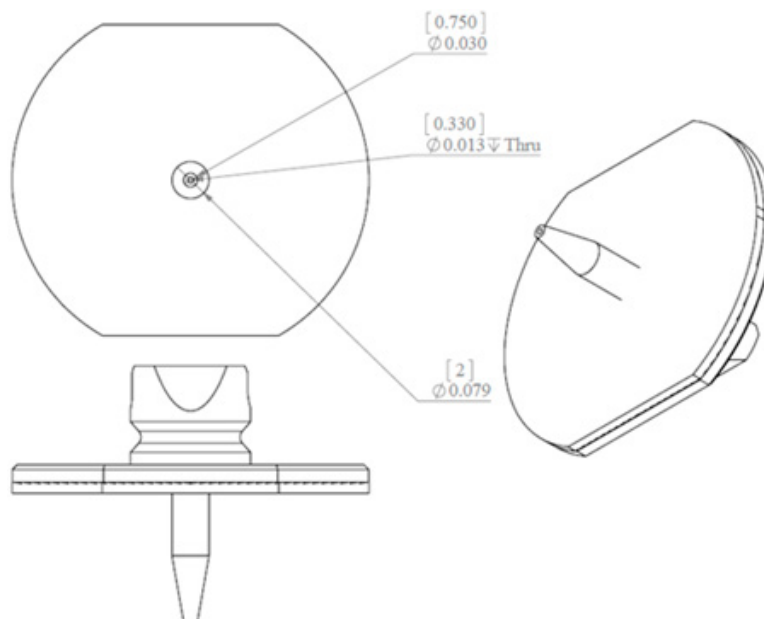
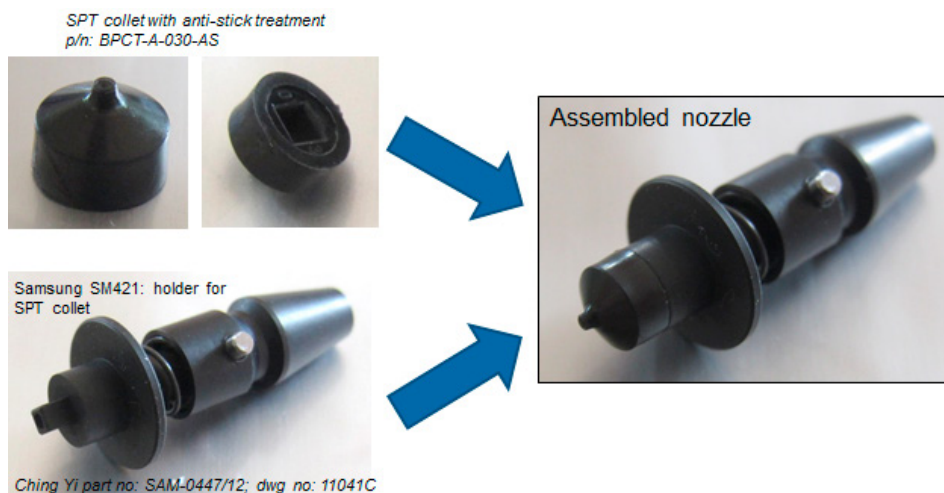
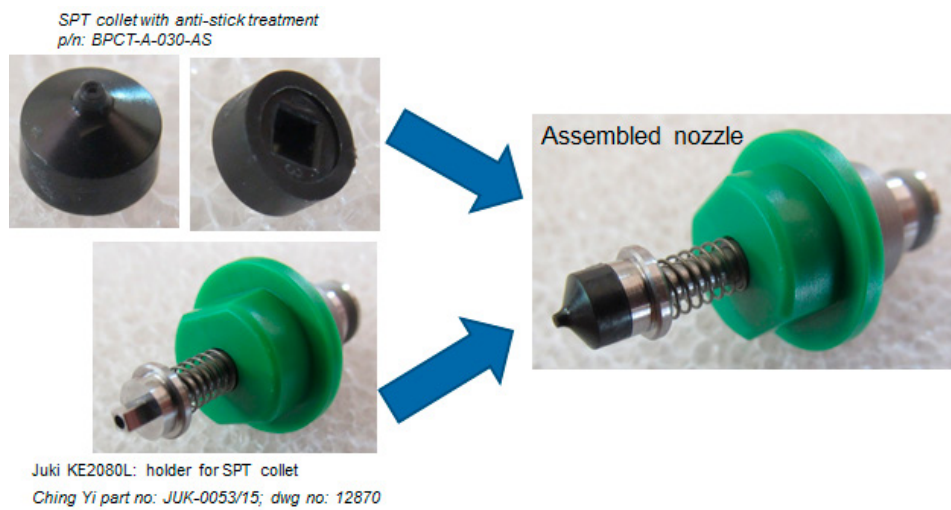

Figure 28. An example of a nozzle dimensions that is suitable for handling LUXEON FlipChip White 10 and LUXEON FlipChip White 05. It has ID/OD of 0.33mm/0.75mm.
Figure 29. Samsung SM421 holder/adapter to fit SPT p/n: BPCT-A-030-AS.
Figure 31. Juki KE-2080L holder/adapter to fit SPT p/n: BPCT-A-030-AS.
The recommended nozzle inner diameter (ID) should be from 0.33mm to 0.50mm. The outer diameter (OD) should be made as small as possible (depending on nozzle material) to reduce contact area to the top of the LUXEON FlipChip and to fit within the tape and reel pocket. An example of a nozzle, which was successfully used to pick and place LUXEON FlipChip, is shown in Figure 28. In addition, the same nozzle tip as used in section 3.3 from SPT (part number: BCPT-A-030-AS) can be used on most pick and place machines via a special holder (adapter) as shown for Samsung SM421 (Figure 29 & Figure 30) and Juki KE-2080L (Figure 31 & Figure 32) machines.